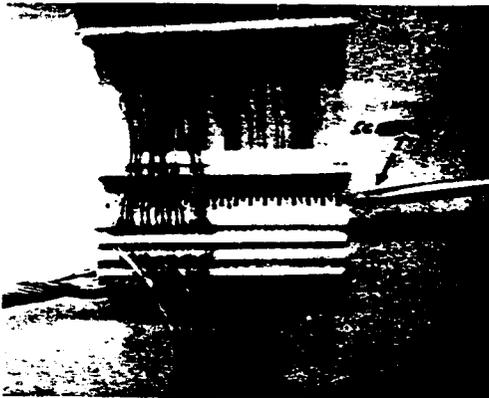

FIG. 54 SEPARATING RECEPTACLE FROM MODULE (PAR. 6.131)
6.131 To expose test module contact forks for probing, twist a 3/16 inch screwdriver tip the slot at the ends of the connector to pry the receptacle off. See Fig. 54. (refer to Par. 4.4).